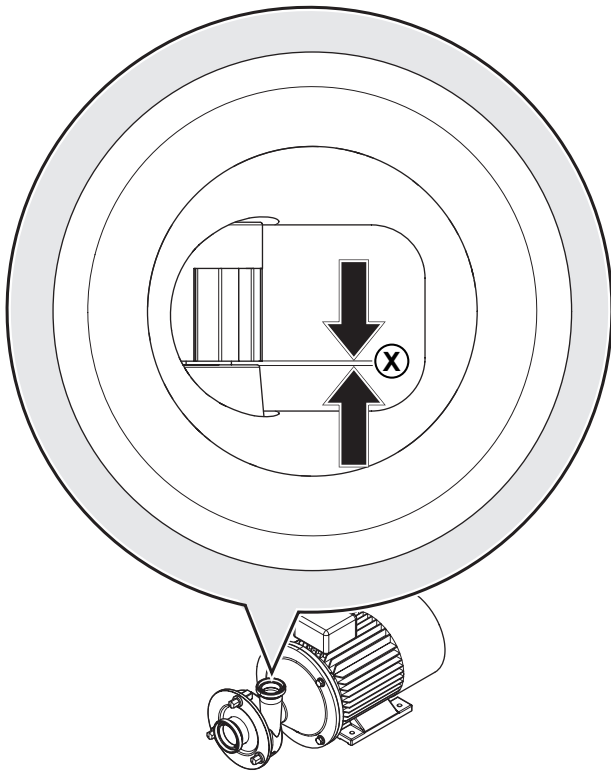

Fig. 23 Measurement of impeller-pump cover clearance
2. Measure the clearance inside the pipe connection (discharge line). See *Fig. 23 "Measurement of impeller-pump cover clearance"*.